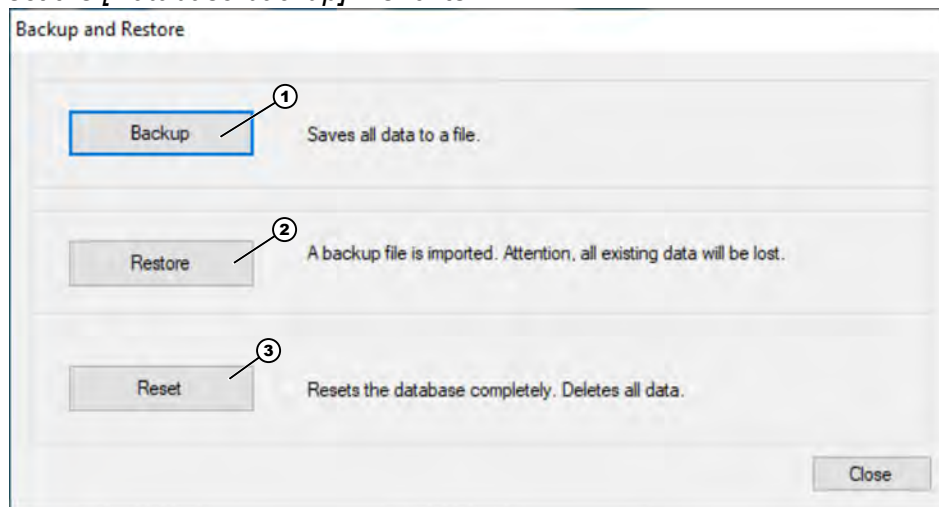

Fig. 53: Selection [Backup and Restore]
⇒ The *[Backup and Restore]* Fig. 53 function opens.
3. ➤ Select *[Backup]* (Fig. 53, item 1).
⇒ The [Backup and Restore] Fig. 53 function opens.
3. Select [Restore] (Fig. 53, item 2).
3. ▶ Select *[Reset]* (Fig. 53, item 3).